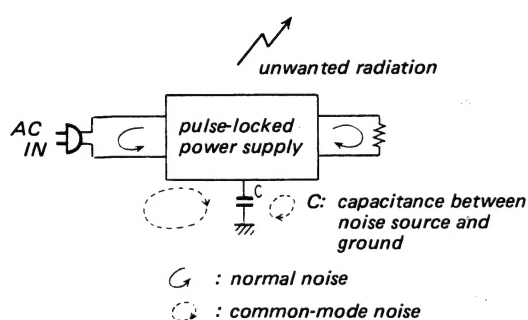

Fig. 4
- The filter consists of coil L601 with bifilar windings on a ferrite-ring core and three capacitors C601–C603. Noise which appears between the ac line and the ground (common-mode noise, See Fig. 4.) is suppressed, thereby reducing the amount of unwanted radiation (noticeable when this amplifier is connected to preamplifier, tuner, turntable, etc.) to insignificant levels.